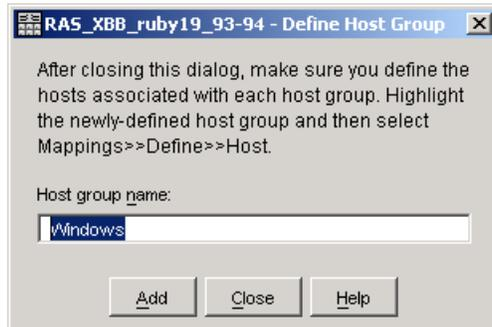

Figure 5-71 Define Host Group name
2. The Define Host Group window (Figure 5-71) opens. Enter the name of the host group that you wish to add. If you must define more host groups, click **Add**. When you are finished, click **Close** to exit the dialog.